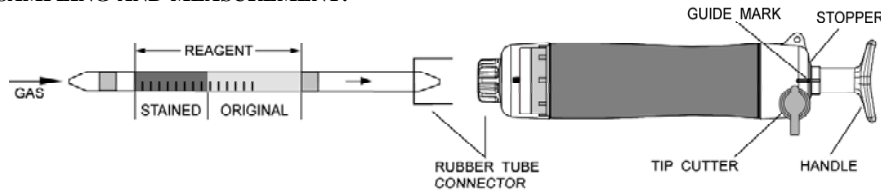

Fig.1
- ② Insert the detector tube into aspirating pump securely as shown in Fig.1. (Arrow mark shall point to the pump.)
- ③ Align the guide marks on the shaft and stopper of the aspirating pump.
- ④ Pull the pump handle at full stroke locked position and wait for 3 minutes or until the completion of sampling is confirmed with the flow indicator of the pump (See descriptions about the flow indicator in the instruction manual of the pump).
- ⑤ On completion of sampling, read the scale at the maximum point of the stained layer.
- ⑥ In case of 4 pump strokes: After the above step ④, turn the pump handle right or left by 1/4 (90°), push the handle without removing the detector tube from the pump inlet, turn it right or left by 1/4 (90°) and repeat the step ④ and these turning-pushing procedures another 3 times.
- ⑦ On completion of 4 pump strokes sampling, read the scale at the maximum point of the stained layer and then multiply the reading value by 1/4.
- ⑧ If the discolouration is over the scale, change the tube and carry out the following 1/2 pump strokes.